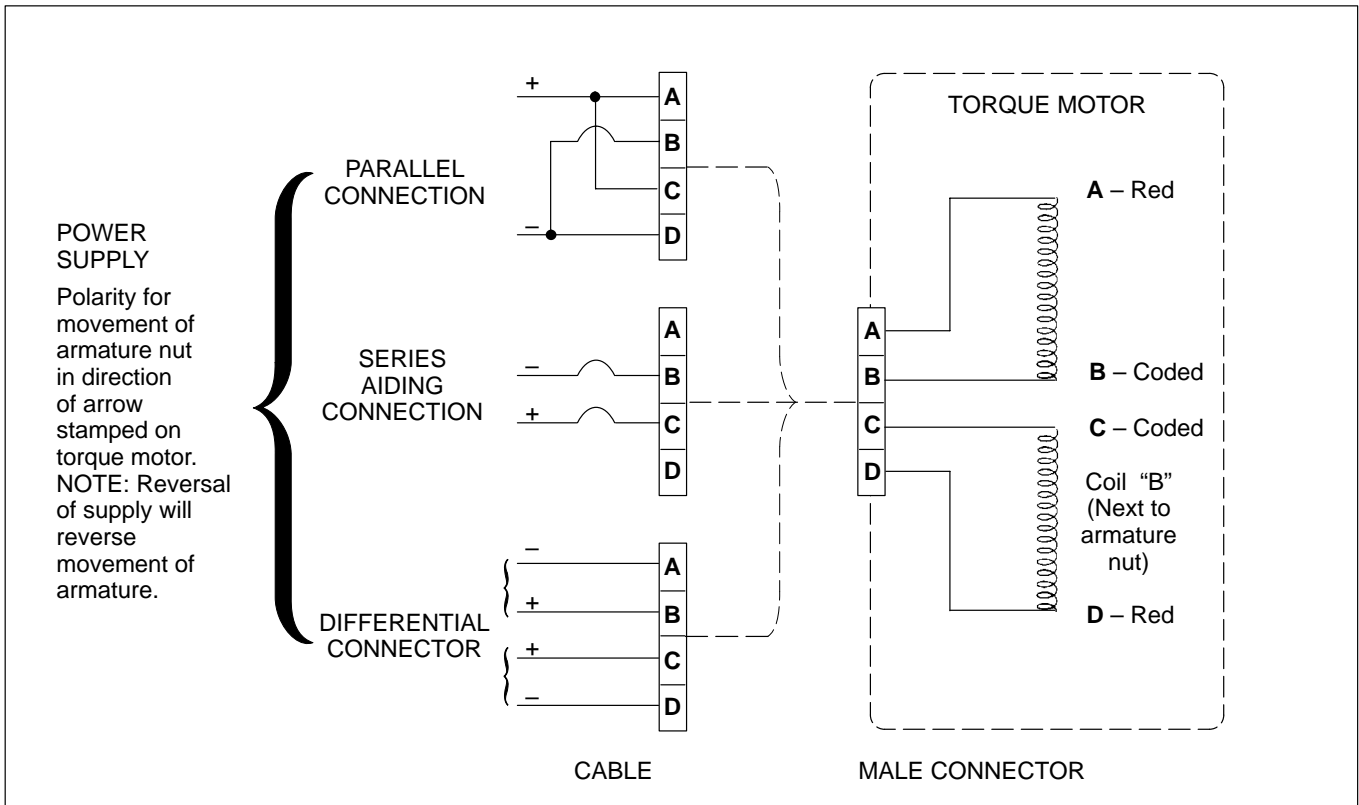

Figure 5. Schematic diagram of possible wiring connections to a Torque Motor.
Pull the symbolized wires through the electrical connector opening as far as possible. If the torque motor was replaced, check the symbolization on the old motor to determine correct electrical connections. Refer to Table 4 and Figure 5 if no connection information is available. Figure 5 will also help you determine the correct wiring for the different types of control systems used with torque motors. Table 5 defines the input current required for a maximum armature deflection of 0.020 inch.
3. Turn off hydraulics and remove valve from the test stand. Place on the work bench with torque motor (10) up. Slightly loosen screws (8) that hold torque motor (10).
4. Connect power supply (9, figure 6) to valve. Observe polarity shown in figure 5. If millimeter reads in reverse, reverse its connections.
Refer to Figure 5 for correct full signal current if coils are other than noted.